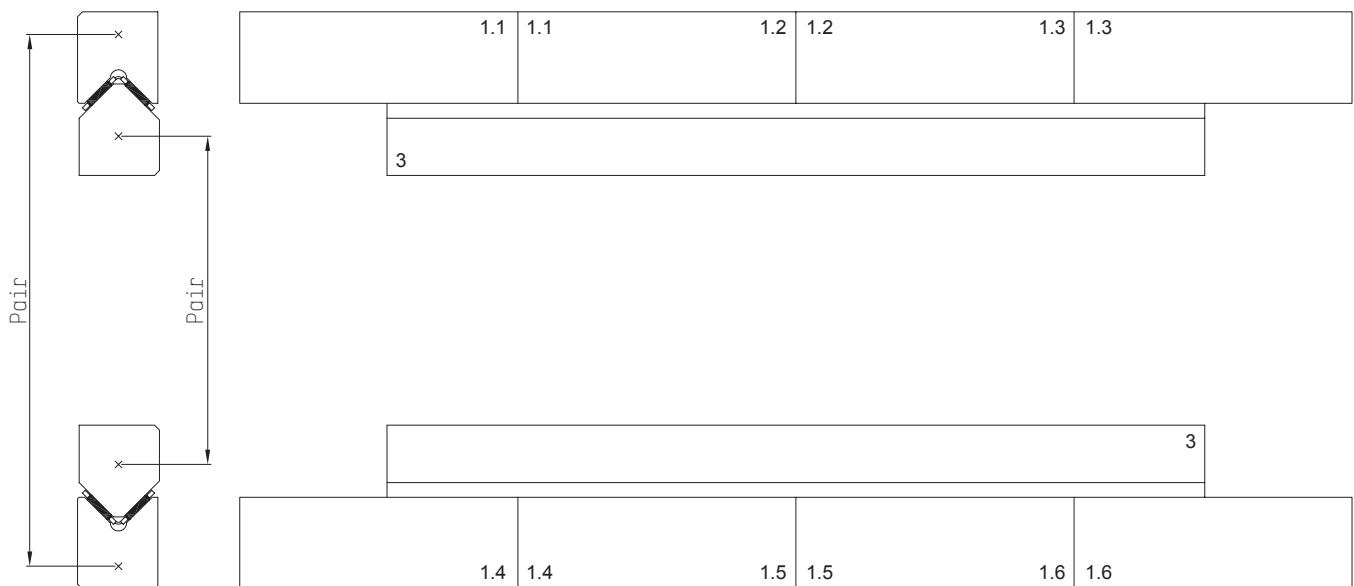

Figure 24. Numbering of single and multi-part guideways
- The M and V guideways may have different set numbers in the closed layout (figure 24).